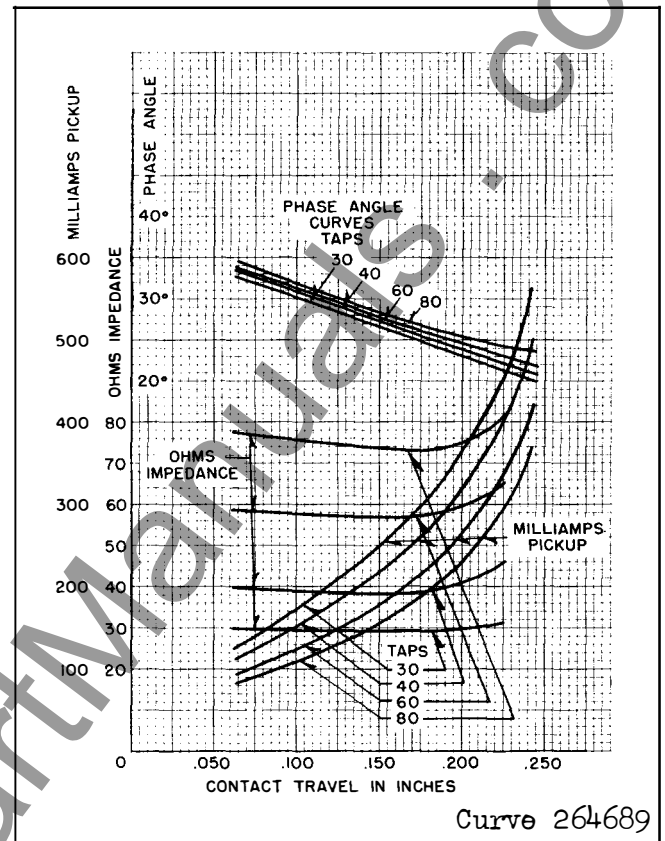
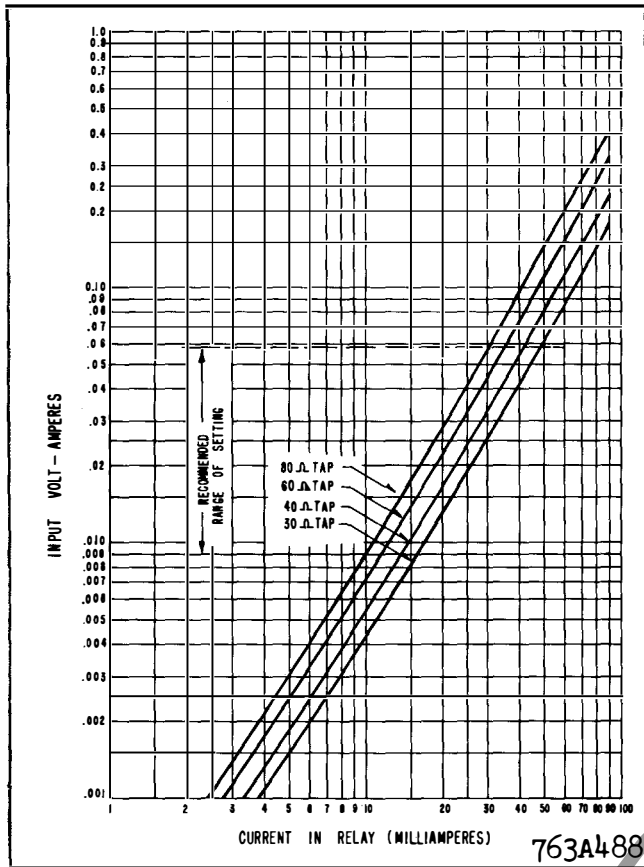
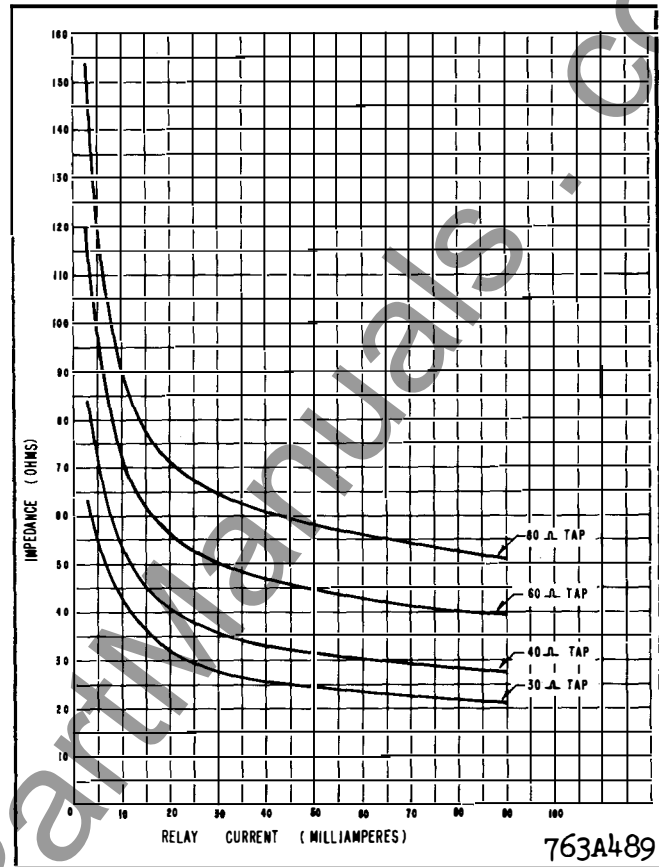

Fig. 4. Typical LC-1 Characteristic Curves.
Fig. 5. Typical LC-2 Volt-ampere Curve.
Fig. 6. Typical LC-2 Impedance Curve (Impedance is at 22° angle).
Characteristic curves are shown in figures 4, 5 and 6. The use of these curves is described under "Setting Calculations". LC-1 sensitivity is about 0.5 V.A. and up. The type LC-2 relay may be set to operate at an energy level ranging from .062 to .0085 volt-amperes. It may also be used to an energy level as low as .0025 V.A. with limitations which will be discussed. This range of application is shown on the typical volt-ampere curves of Fig. 5. Typical impedance curves are shown in Fig. 6. The phase angle of the relay is substantially constant (within 3°) at 22° .
Equation (3) is used to determine the current at which the relay trips for an internal fault on the bus of magnitude, I_p . Equation (4) is used to determine the primary current necessary to trip the relay when it has been adjusted to trip at a known value of relay current. It should be noted, however, that the relay impedance is not constant, but varies with relay current as indicated in Figs. 4 and 6. Therefore, in using equation (3), it is desirable to assume a value of relay impedance equal to the impedance tap, and make a first calculation of the relay current. When this is obtained, a new value of relay impedance should be selected from Fig. 4 or 6 and a second value of relay current calculated. Usually, it will not be necessary to continue the calculation any further, as the values resulting from the second calculation will be sufficiently accurate.
Reference to Figure 4 indicates that the relay can be set to operate at .102 (or 0.100 ampere on either the 60 ohm or 80 ohm tap. Since the desired value is near the minimum obtainable, choose the 60 ohm tap as being the closest match to the value of 57.8 for NZ_C , and make a second more accurate calibration. Using the 60 ohm tap and a contact travel of .075", values read from the curve give a pickup current $I_r = 0.100$: $Z_r = 58.3$ ohms, and an impedance angle of 33° for Z_r .
This is within the recommended setting range of the relay as indicated in Fig. 5.
From Fig. 6, on the 60 ohm tap, at $I_r = .0221$ $Z_r = 54.5 / 22^\circ = 50.6 + j20.4$.
At $I_r = .0232$ on the 60 ohm tap, Fig. 6 indicates that $Z_r = 54$ ohms. Since a value of $Z_r = 54.5$ was used in the above calculation, it is not necessary to carry the calculation any further.